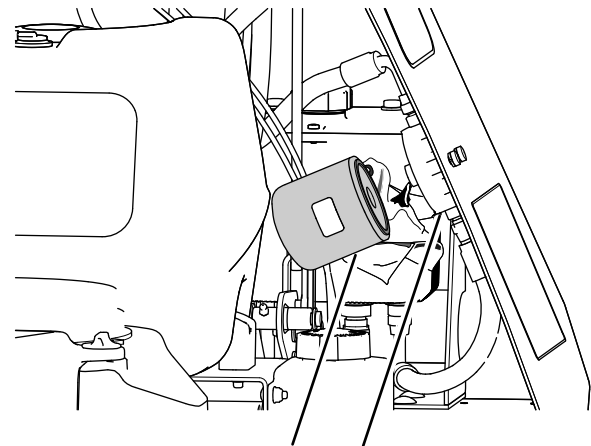

Figure 57
- Rotate the auxiliary-hydraulic filter counterclockwise and remove it from the base of the filter adapter (Figure 57).
- Install the filter by rotating it clockwise onto the filter adapter until the seal contacts the filter adapter, then tighten the filter an additional 2/3 to 3/4 turn (Figure 57).